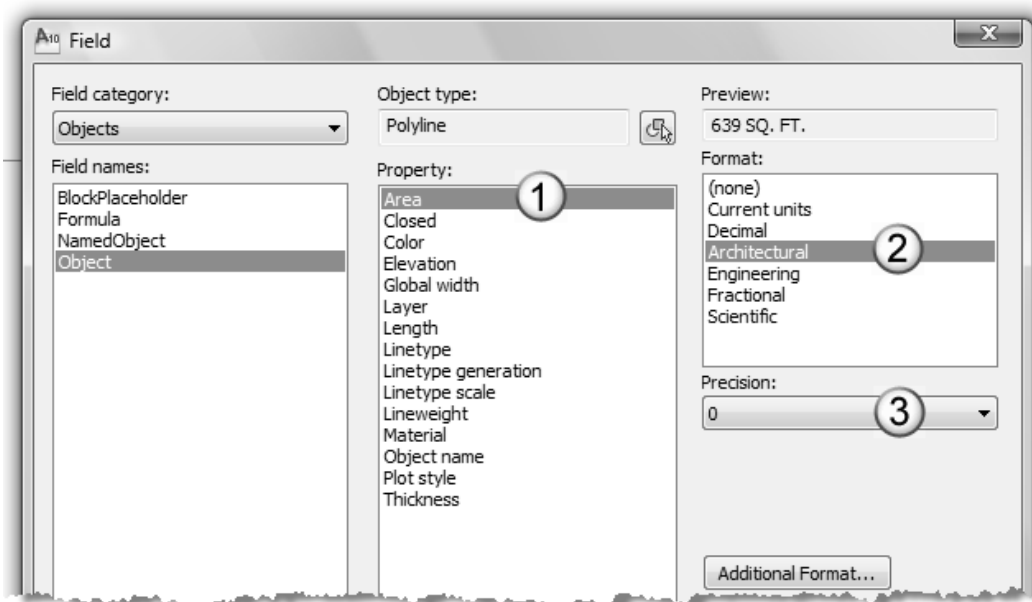

Figure 4-4.6 Field dialog box; polyline selected
17. Select **Architectural** under *Format* and set the *Precision* to **0**. Notice the *Preview* changes (Figure 4-4.6).